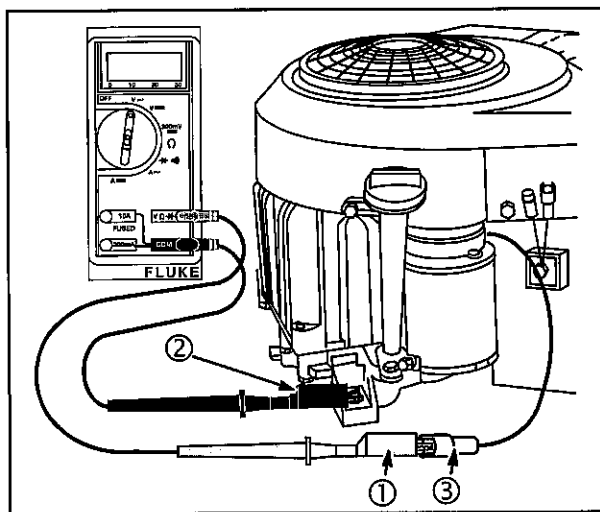

Fig. 24
4. Attach RED test lead clip (1) to GREEN output terminal (3), Fig. 24.
5. Attach BLACK test lead clip (2) to engine ground.